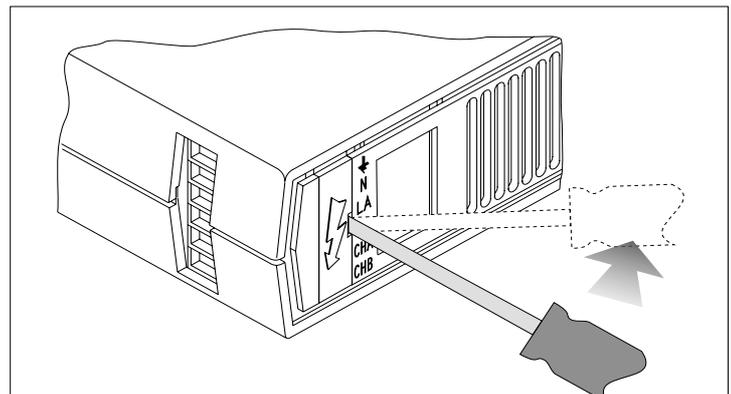

Fig.1-2: Removing the power terminal cover.
1. Insert the blade of a small flat-bladed screwdriver into the notch on the terminal cover plate, and gently prise out the plate to gain access to the power connector (see Fig.1-2).
3. Insert the blade of a small flat-bladed screwdriver into the notch on the terminal cover plate, and gently prise out the plate to gain access to the power connector (see Fig.1-2).